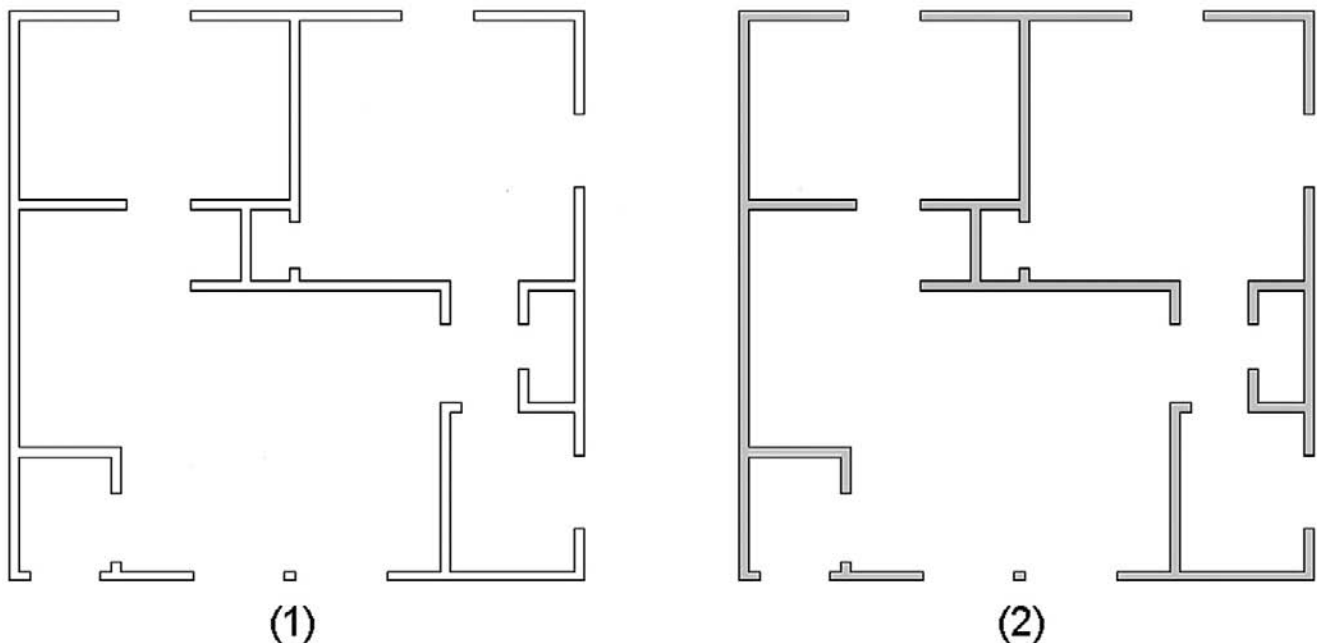
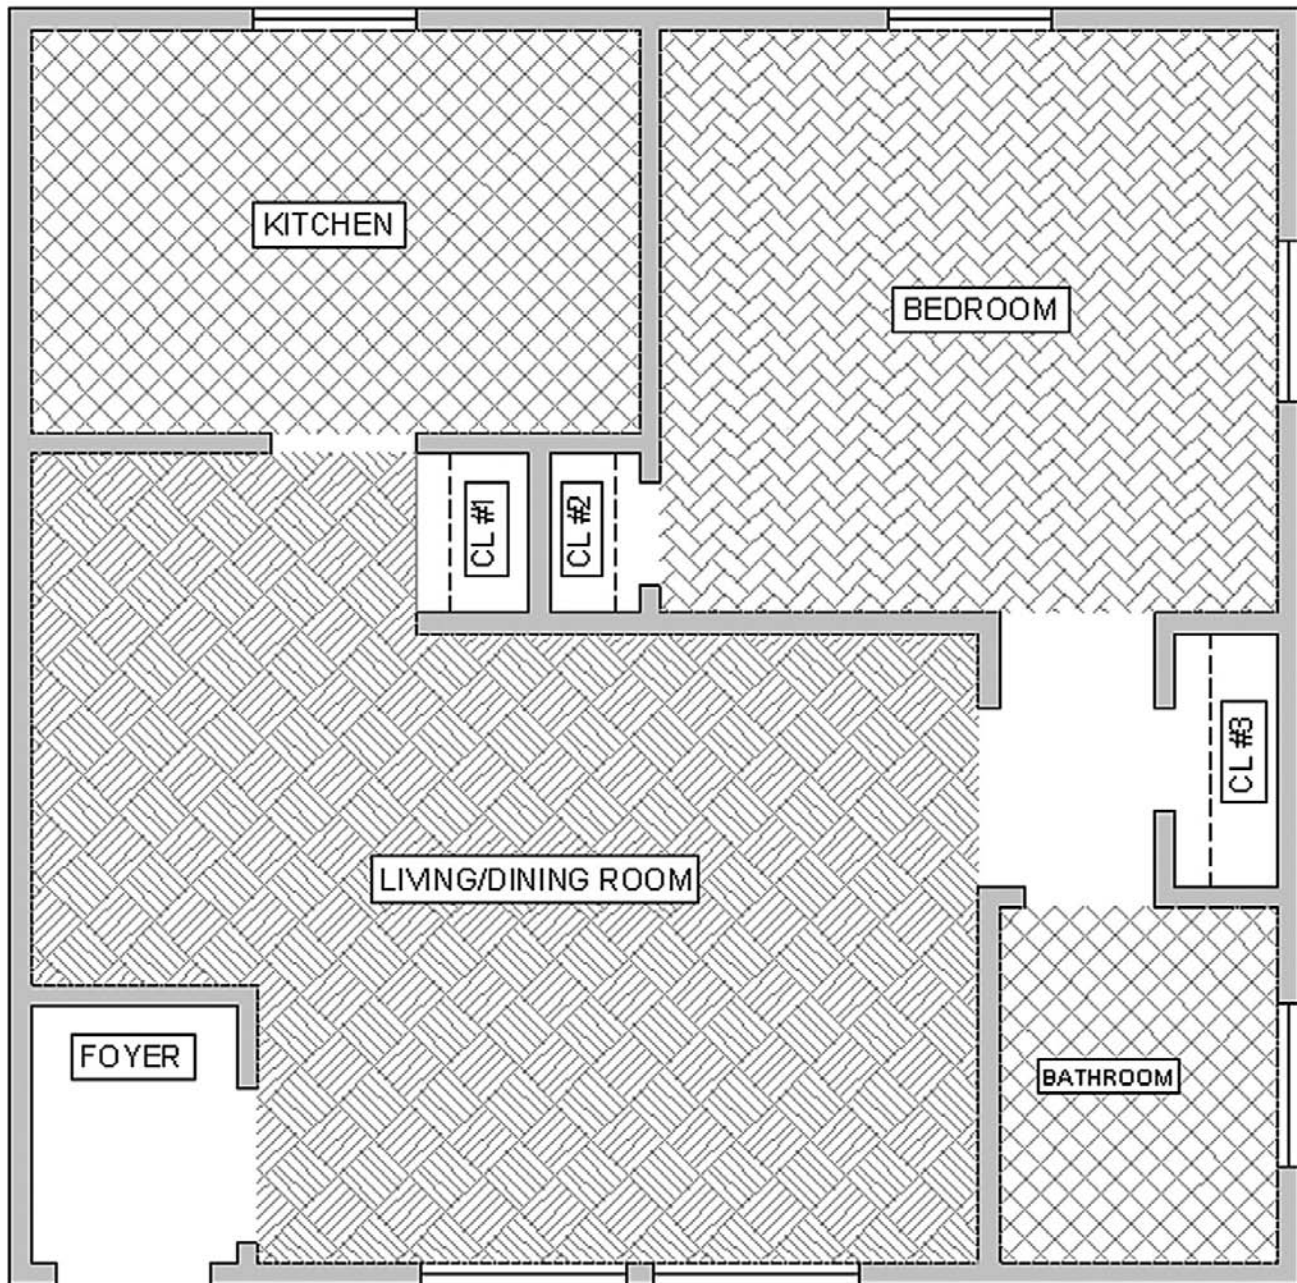

FIGURE 5.18
FIGURE 5.19
To fill in the apartment walls, freeze everything except the A-Walls and the Hatch layer. Then, use the solid fill, color Gray 9, as described earlier. If you created everything properly, there should be no gaps or breaks in the wall islands. Check to make sure the windows are drawn correctly, meaning the wall has to have an actual closed gap, into which the window is inserted. Figure 5.18 shows what everything should look like *prior to wall hatching* (1) and *right after* (2). One possible approach to hatching the apartment is shown in Figure 5.19.